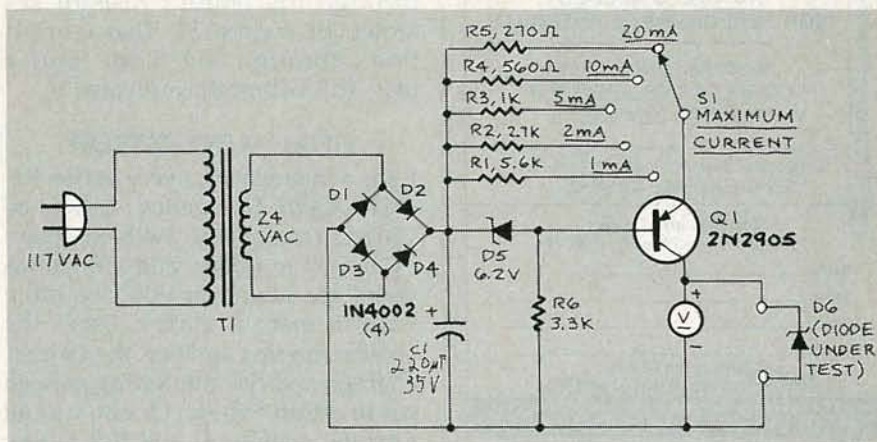

FIG. 3
I'd like to point out that a 2" x 3" circuit board, with the circuit shown in of Fig. 3 of that article is available through Celtic Industries, Inc., 14654 Keswick St., Van Nuys, CA 91405 (818) 787-3615.
A more versatile circuit is shown in Fig. 3. That circuit works only with Zener diodes rated at less than about 25 volts. The circuit works by using a 2N2905 PNP transistor as a constant-current generator whose output impedance is determined by feedback current through the emitter resistor selected by switch S1. That current flows through the diode under test; the voltmeter indicates V_Z .